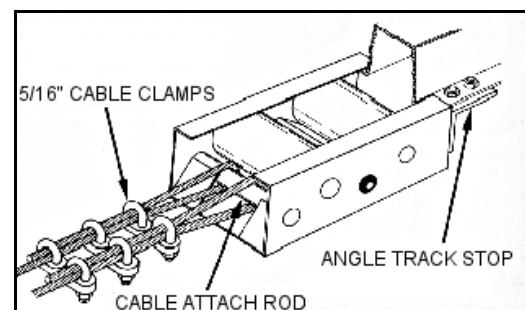

Figure 3.38
2. With both cylinders in full down position and track shoe resting against the track stop, thread both cables over the cable-attach-rod on the track shoe. Pull cable very tight, then secure with three 5/16" cable clamps on each cable, positioned as shown (Figure 3.38). Tighten securely. Tie up excess ends of lift cable with tape or ty-wrap.